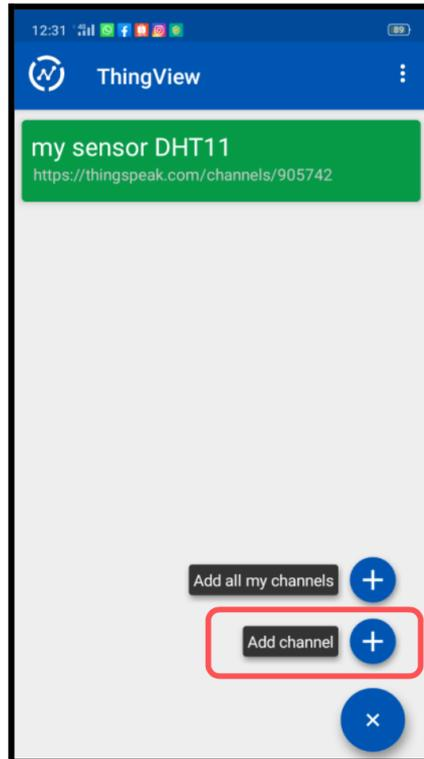

Figure C1
32. Click + icon to Add channel as shown in Figure C1.